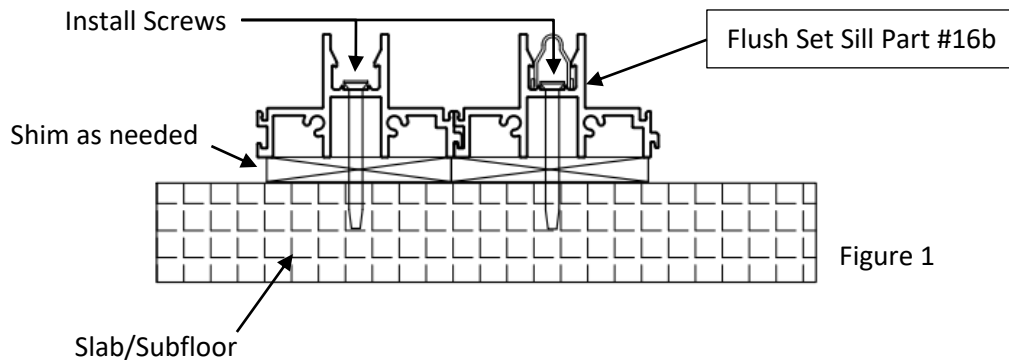

Figure 1
19. Once the frame is determined to be plumb, level, and square in the opening, fasten the 90-degree sill corner joint (Part #16a) to the rough opening. Use installation screws spaced roughly one foot on either side of the corner in order to keep the corner anchored as shown in Figures 1 & 2. Screw in the location of the thermal breaks (black). Seal all fasteners with compatible sealant.